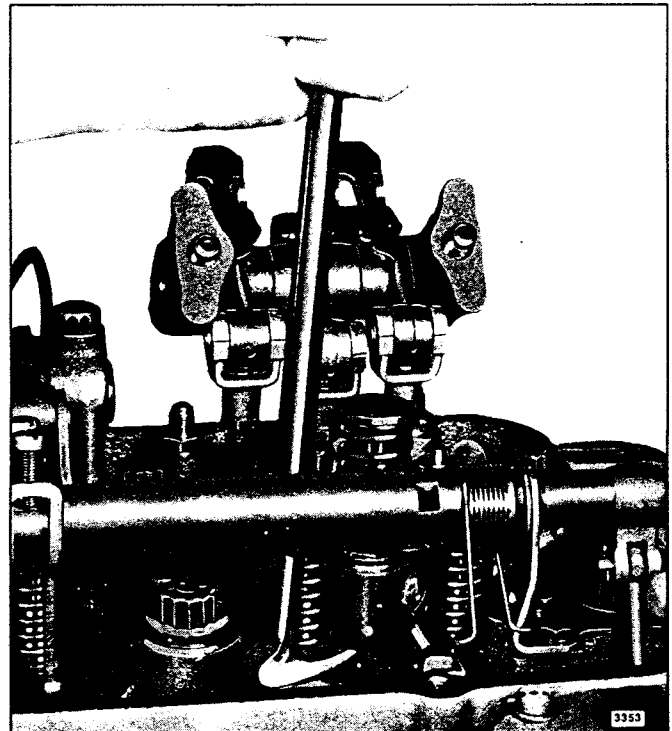

Fig. 6 – Removing Injector from Cylinder Head
4. Remove the two rocker shaft bracket bolts and swing the rocker arms away from the injector and valves (Fig. 6).
7. Lift the injector from its seat in the cylinder head (Fig. 6).